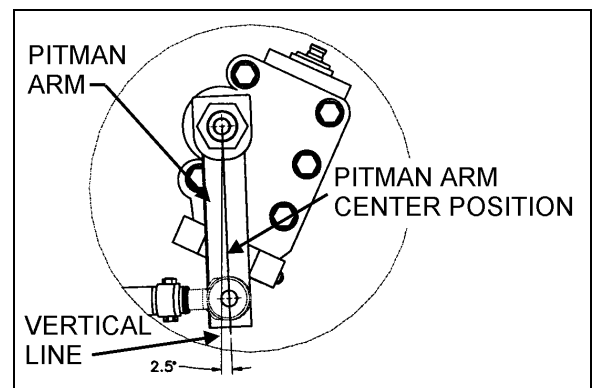

FIGURE 14: PITMAN ARM ADJUSTMENT
- Using a protractor, check the angle of the pitman arm (refer to Fig. 14 for details).